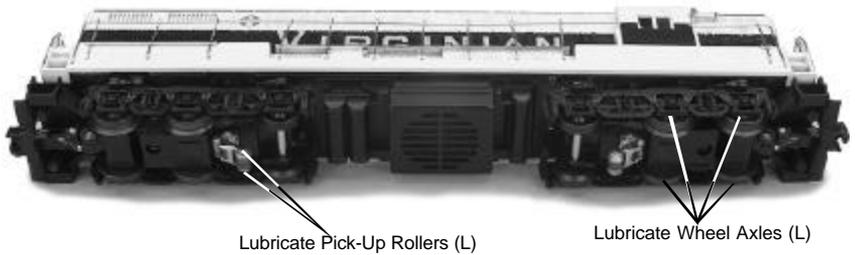

Figure 5. Lubrication Points on the Locomotive
- Although the engine was lubricated at the factory, it is important that you lubricate the chassis before operation. Lightly grease the outside idler and drive gears (marked “G” in Fig. 7 on pg. 13) with lithium-based grease to prevent them from squeaking. Use light household oil and follow the lubrication points marked “L” in Fig. 5 on p. 12. Do not over-oil. Use only a drop or two on each pivot point.
You should regularly lubricate the engine to prevent it from squeaking. Use light household oil and follow the lubrication points marked “L” in Fig. 5. Do not over-oil. Use only a drop or two on each pivot point.